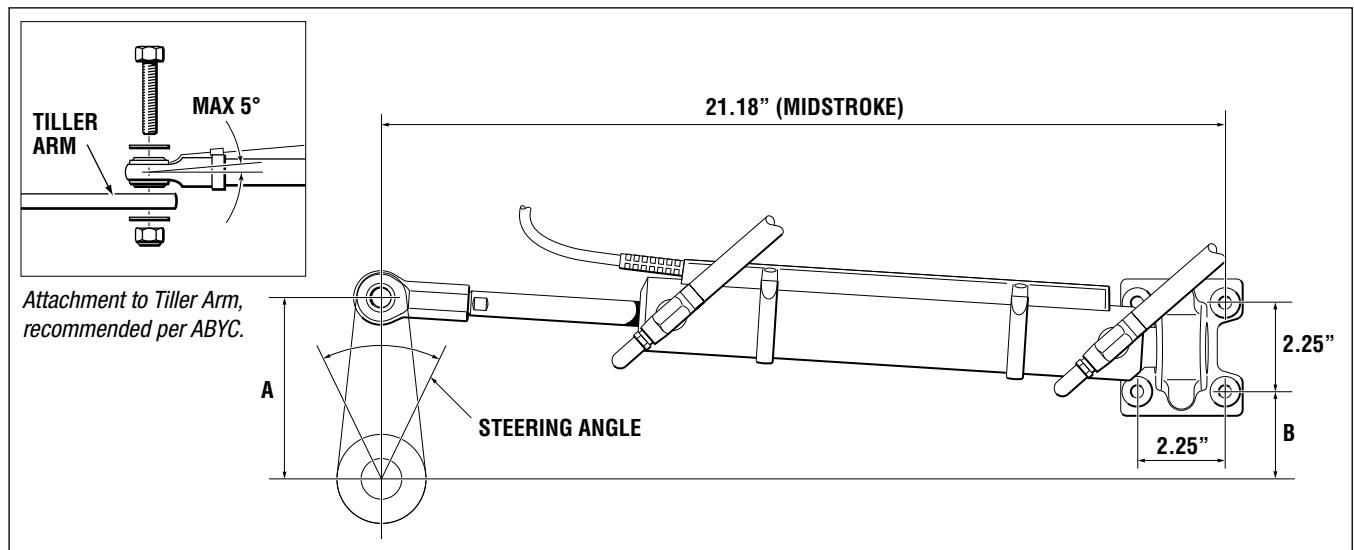

Figure 5-17.
2. Secure rod end to tiller arm using the supplied hardware as shown in figure 5-17. Torque the nut to 43 ft-lb (58.3 Nm).
3. Place mounting foot in location indicated in figure 5-17 and table 5-2 for desired steering angle.